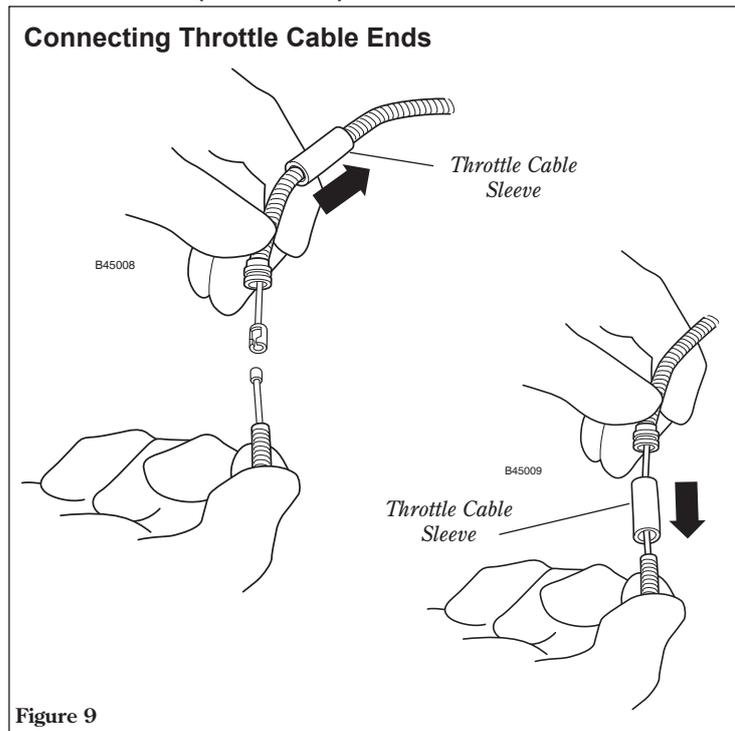

Figure 9
4. Connect the powerhead throttle cable with the throttle cable from the handlebar. See Figure 9.
5. Center the throttle cable sleeve over the connected cable ends and place the assembly in the throttle cable connector. See Figures 9, 10.